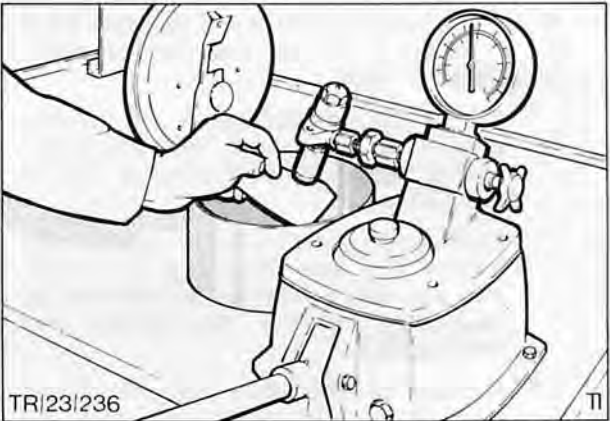

Fig. 62. Checking injector for leakage by using a piece of absorbent paper
- A. Depress the Nozzle Testing Machine lever at about 20 strokes per minute, when a serviceable nozzle should emit a soft 'buzzing' noise, (possibly intermittent). Atomization will, however, appear to be streaky and generally unsatisfactory although, at the same time there should be no appreciable wetness at the orifice, Fig. 62.